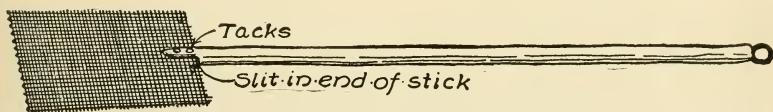

FIG. 47. — A Fly-killer.
**The Fly-killer**, shown in Fig. 47. This simple device consists of a piece of screen-wire, about four by five inches, stuck into a slot made in the end of a stick, and fastened in place with tacks driven through the end of the handle and clinched upon the under side.